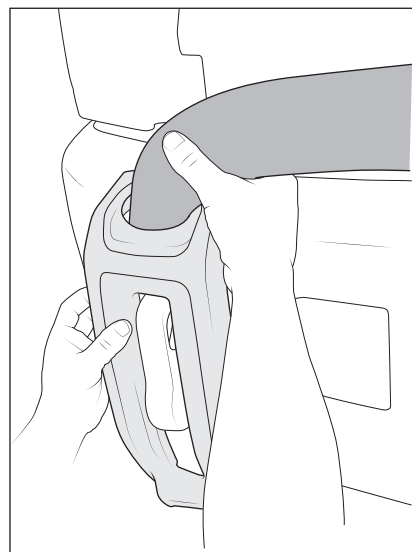

Figure 31
2. Slide the second bezel onto the end of the tube, then position together in place on the bumper (fig 31).